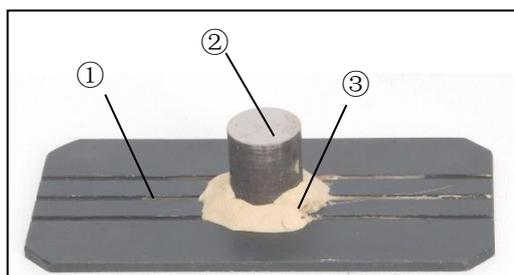

Fig.4
3-4 Specimen preparation and placement (Fig.4, Fig5)
1. The specimen (Num② in Fig.4) for observation is fixed on the sample plate (Num① in Fig.4) by use of silly putty (Num③ in Fig.4), and ensure the specimen surface is parallel to the sample plate. You can use the nipping machine to press the sample. (as shown in Fig.5).